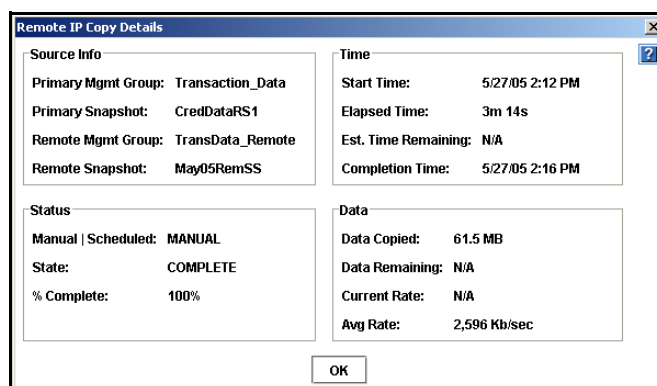

Figure 245. Remote Snapshot Details for a Completed Remote Copy
2. Right-click and select View Remote Snapshot Details (or double-click the snapshot). The Remote Copy Details window opens, as shown in Figure 245.
During the remote copy process, the Details window reports current data for the statistics. When the copy is completed, the statistics show summary data. Figure 245 shows a completed remote copy. Table 63 lists the values for the statistics reported in the Details window.